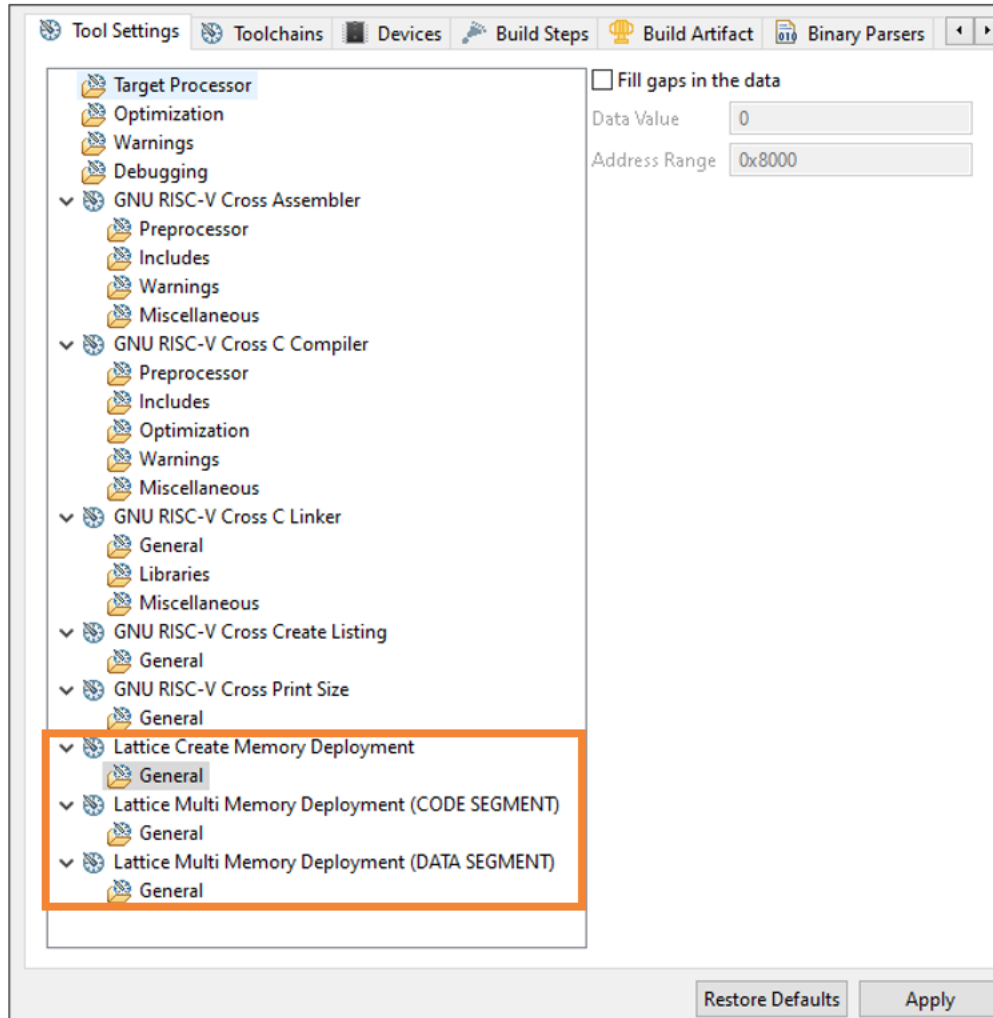

Figure A.5. Tool Settings Tab of C/C++ Build Settings
6. Go back to the **Tool Settings** tab. The relevant Lattice memory deployment tools can be found (Figure A.5). Customize the tool options as needed.